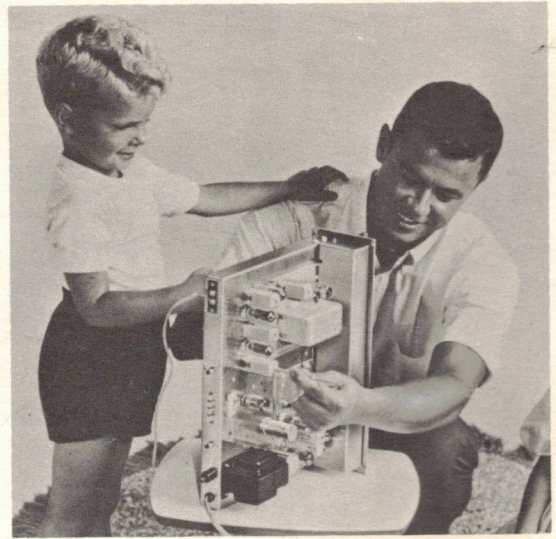

Figure 17
- 4  Turn the tuner on its side, as shown in (Figure 17). Turn the *SELECTOR* switch to the *Mono* position. This automatically turns the tuner on. Watch carefully for any signs of overheating or smoke, either under the chassis or on top. All the tubes and the Pilot bulb should light up normally and not show evidence of unnatural bright glowing. At the first sign of difficulty, turn off the tuner immediately. Refer to the section on "In Case of Difficulty". If everything seems to be in good order, turn the tuner off and install the bottom cover. Do not yet put in the screws, but align the cover so that the holes in it line up with the holes in T1, T2, T3 and T4. Turn the tuner back on by again positioning the *SELECTOR* switch to the *Mono* position. Now turn on the amplifier and set its volume control to approximately  $\frac{1}{2}$  volume.